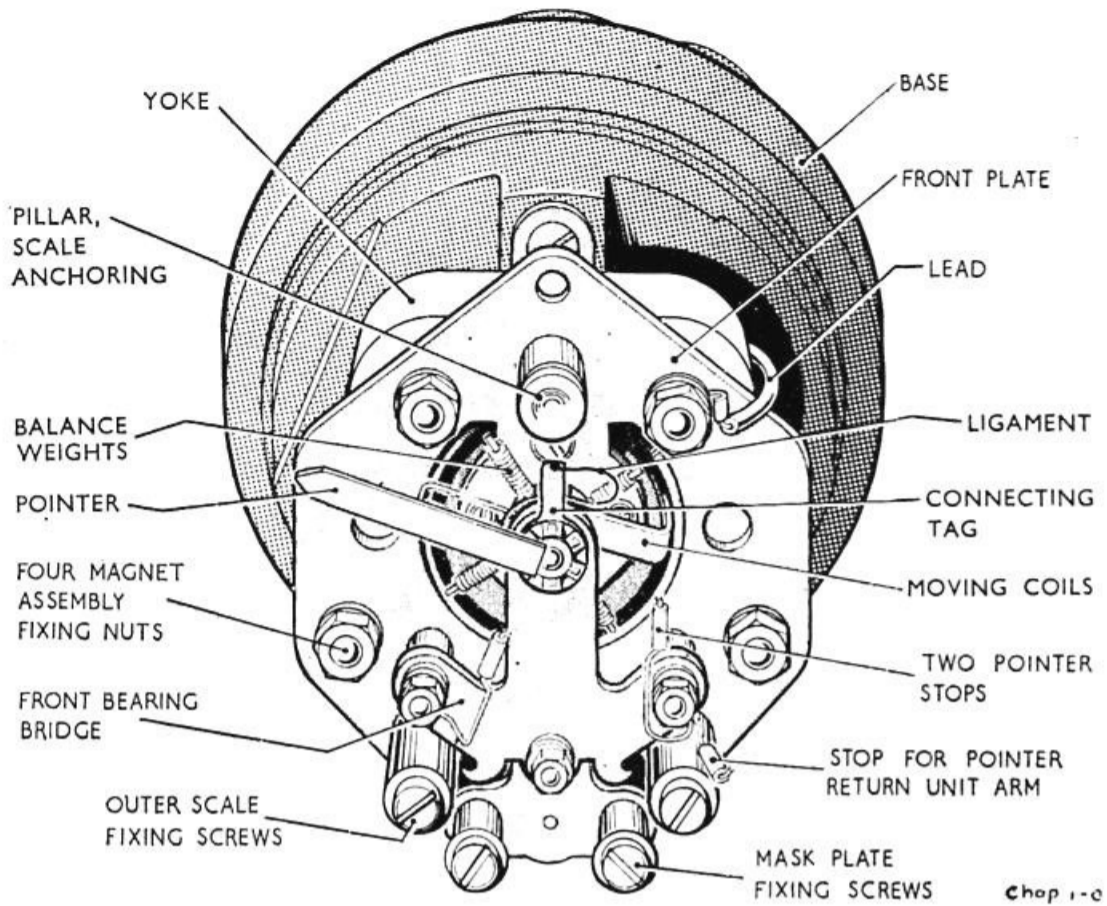

Fig. 2. Indicator movement, front view
8. The base (*fig. 2*) on which is mounted four pillars, threaded, and accommodating nuts which secure the magnet and movement assembly, also supports four spool wound resistance windings which are connected as an Anderson bridge network, in series with the moving coils. The ohmic value of these spools vary with individual indicator calibration. In addition to the resistance spools, a limiting resistor is also provided and is connected in series with the positive supply.